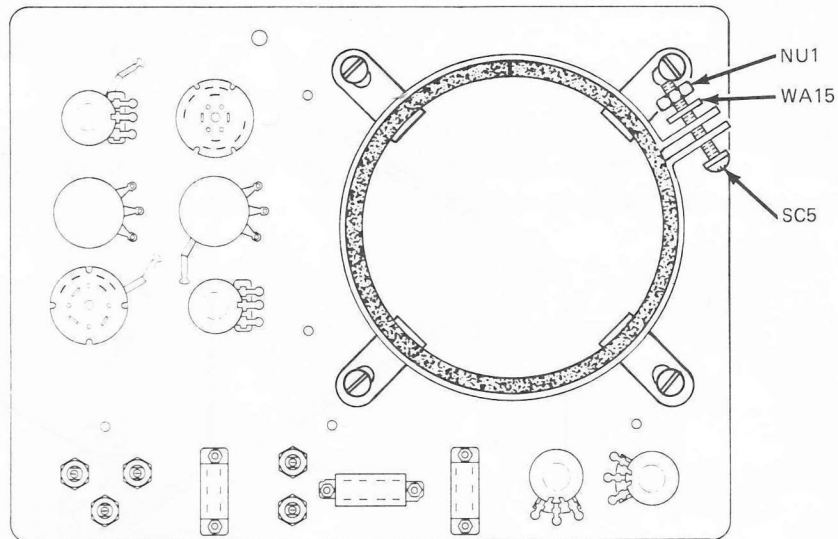

Figure 35. Installing CL59.
(3) Position the crt clamp (CL59) so that it rests inside the flange of the crt front panel brackets. Use a 6-32 $\times$ 1" machine screw, lockwasher, and nut to secure the CL59. Position the screw as shown in Fig.35. Do not tighten the screw at this time ()